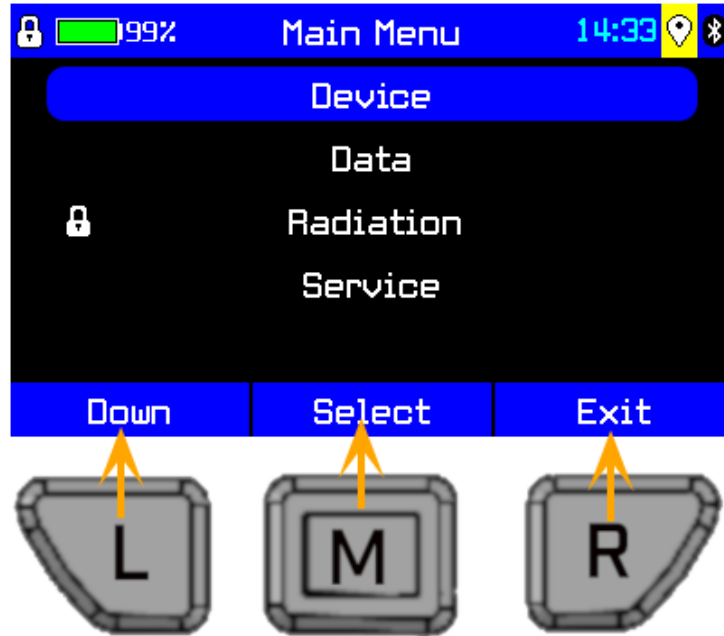

Figure 2-9: Main Menu
- Press **M (Select)** to display or edit the currently highlighted option—in Figure 2-9, to display the Device menu.
If a padlock icon appears beside a menu option, such as the Radiation option in Figure 2-9, you need to enter a password (2.5.1 on the next page) to access the option.
A closed padlock () in the status bar (2.1.1.4 , p.21) or beside a menu item (Figure 2-9, p.28) indicates that the identiFINDER R425 is password-protected. If the instrument is password-protected, you must enter the password before accessing the locked functions.